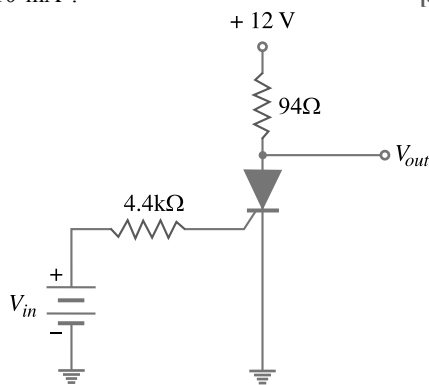

Fig. 18.34
6. In Fig. 18.34, if the gate trigger current of the SCR is  $1.5 \text{ mA}$ , what is the input voltage that triggers the SCR? Given  $V_{GT} = 0.7 \text{ V}$ . [7.3 V]